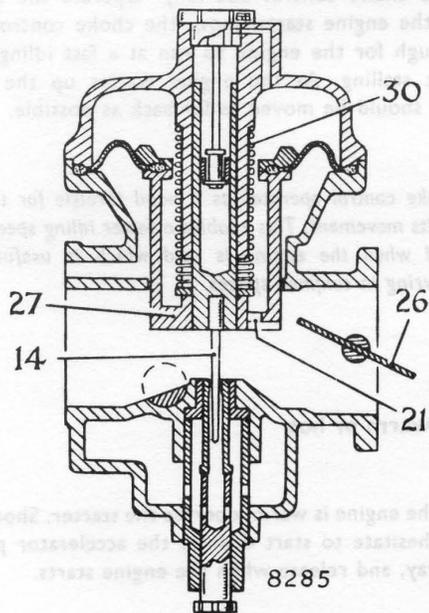
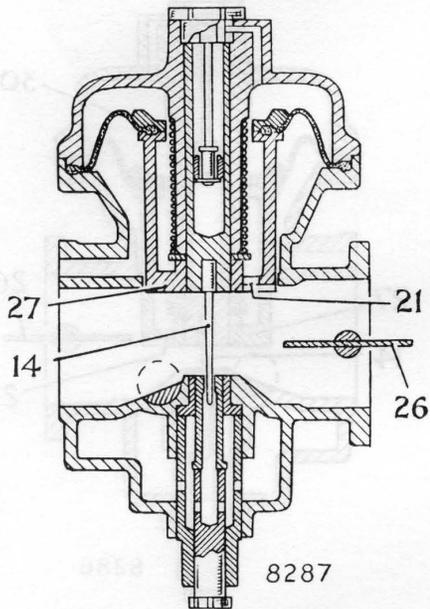

Fig. 6. Part throttle operation — moderate engine speeds
Fig. 8. Full throttle operation — high engine speed
before, and to "float" in its, maximum lift position shown in Fig. 8 IF THE ENGINE SPEED CONTINUES TO RISE. Figs. 6, 7 and 8 show the approximate positions taken by the air valve piston (27) for part throttle opening at moderate engine speed, full throttle opening at low engine speed, and full throttle opening at high engine speed. From these illustrations it can be seen that the air valve piston position is dependent upon the amount (weight) of air that the engine can draw through the throttle opening, and that a high air speed and almost constant depression will always exist at the fuel discharge annulus where the needle enters the jet.